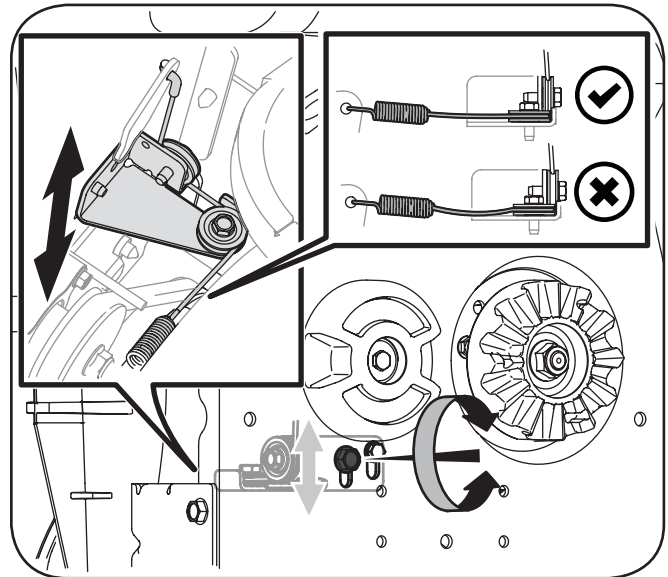

Figure 6-2
3. Looking at the rear mounting plate of the snow thrower attachment, loosen (*but do not remove*) the left side hex screw shown in Figure 6-2.
4. On the front side of the mounting plate, move the cable tension guide up or down to remove any slack in the auger drive cable. See the left inset of Figure 6-2.
Note: Be sure that the adjustment does not apply any pressure on the cable and the actuator arm. This adjustment is simply to remove the excess slack in the auger cable as shown in the right handed inset of Figure 6-2.